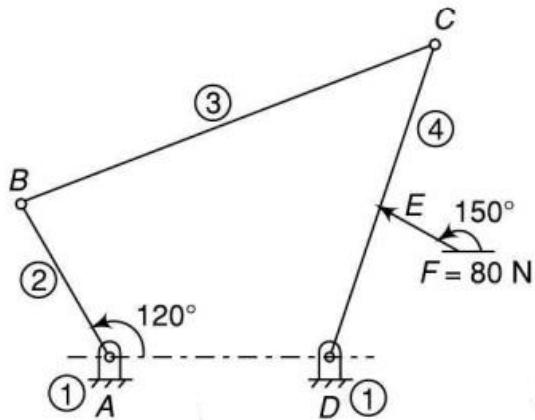

Fig.6b
b) A four-bar mechanism shown in Fig. 6b, with the following dimensions is acted upon by a force 80 N at an angle of 150° on the link DC. $AD = 500$ mm, $AB = 400$ mm, $BC = 1000$ mm, $DC = 750$ mm and $DE = 350$ mm. Determine the input torque T on the link AB for the static equilibrium of the mechanism for the given configuration.